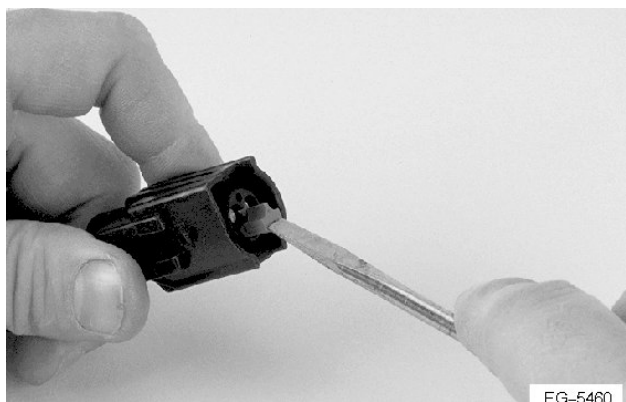

Figure 277 Insert Terminal Lock
3. Insert the locking wedge and push in until flush with the face of the connector body (See Figure 277, page 444).